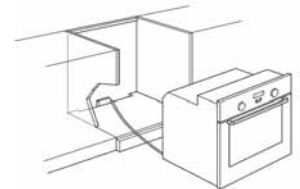

Fig. 8
- Lift the oven using the handles on each side (B) and insert it in the unit, ensure that the power cable is not trapped (Fig. 8).